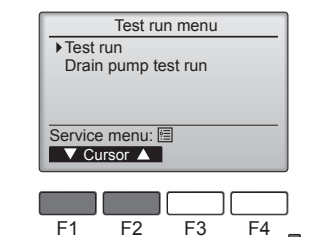

Fig. 6-4
- ④ Select "Test run" with the [F1] or [F2] button, and press the [RETURN] button. (Fig. 6-4)